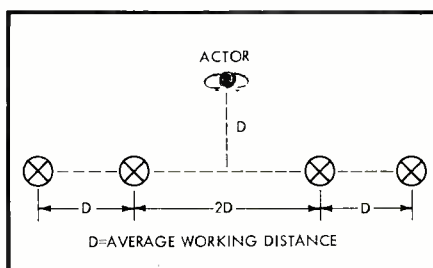

Fig. 2. Spacing microphones based on average working distance.
The distance between the mikes (D) should be the same as the *average working distance of the actors from the mike*. This average (middle) distance is the one at which much of the acting is done. A shanty play will probably have a greater " D " than a quiet play. Start by placing the center mikes $2D$ from each other, and the left and right mike $1D$ on either side of the two center mikes (Fig. 2). The $2D$ figure is not a sure bet, but it is a place to start. You may have to move the mikes closer together, approaching $1D$ or less.